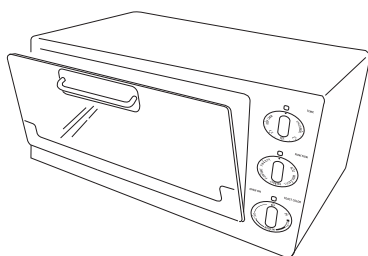

fig. 1
- Place the food to be grilled on the broil rack (P) inserted on the bake pan (H), and place them together in the guide 1.
- Close the door until you hear a "click" (see figure 1).
- Turn the function selector knob (D) to the position.
- Rotate the timer knob (B) in a clockwise direction.
- After cooking, manually turn the Timer knob (B) back to "0" position.
- Turn the thermostat knob (A) to position .
- Turn the function knob (D) to position .